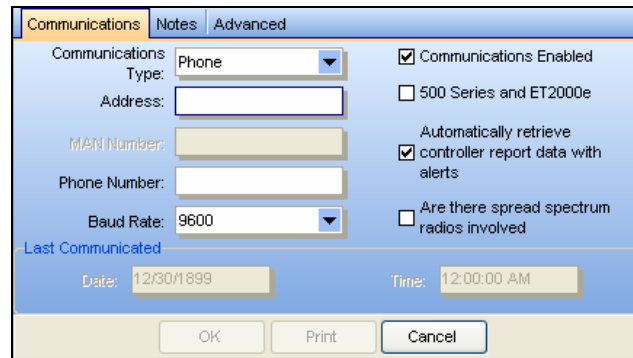

Figure 4.2.1
1. In the “**Communications Type**” box use the pull down arrow to select one of the ten different types of communications available (Figure 4.2.1)